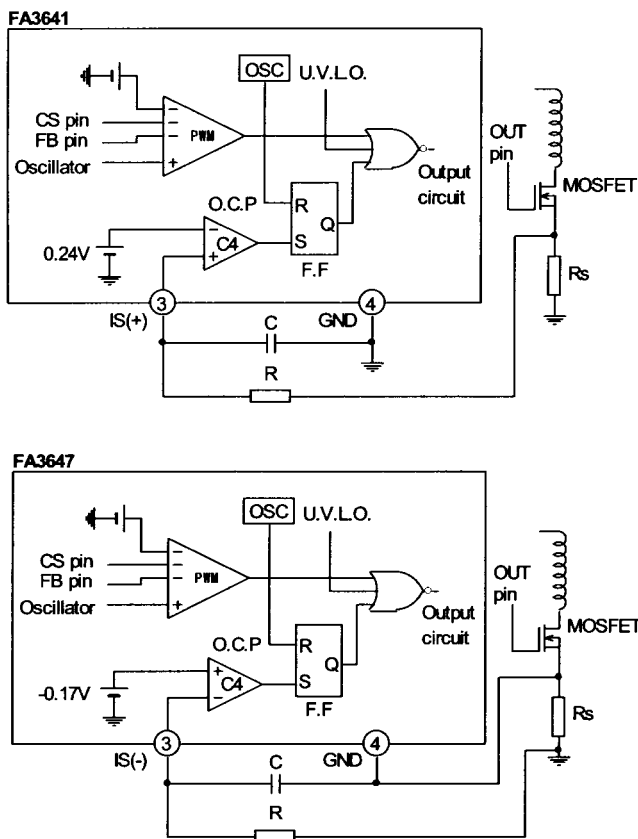

Fig.14 Overcurrent limiting circuit
The overcurrent limiting circuit detects the peak value of every drain current pulse (pulse by pulse method) of the main switching MOSFET to limit the overcurrent. The detection threshold voltage is +0.235V for FA3641 or -0.17V for FA3647 with respect to the ground as shown in Figure 14.
If the overcurrent limiting circuit malfunctions due to noise, place an RC filter between the IS pin and MOSFET as shown in Figure 14. (See (14) in Section 9, "Design Advice.")